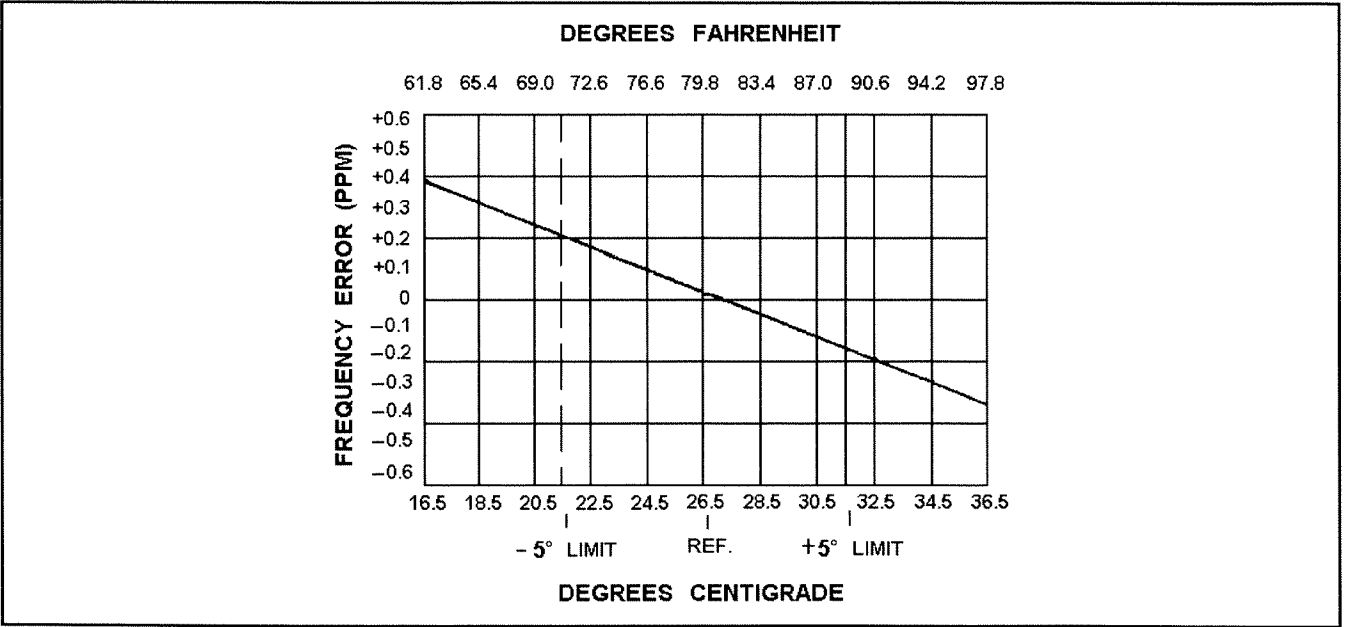

Figure 7 - Frequency Characteristics Vs. Temperature
To SET ICOM frequency using "beat frequency" method, the temperature should be at 26.5°C (79.8°F). If the temperature is not 26.5°C, then offset the "on frequency" signal (at the receivers input), as a function of actual temperature, by the frequency error factor (in PPM) shown in Figure 7.
- 2. Maintain the radio at 26.5°C (±10°C) and offset the oscillator, as a function of actual temperature, by the frequency error factor shown in Figure 7.
- B. To hold setting error to ±0.35 PPM (which is considered reasonable for 2 PPM ICOMS): Maintain the unit at 26.5°C (±5°C) and offset the oscillator, as a function of actual temperature, by the frequency error factor shown in Figure 7.